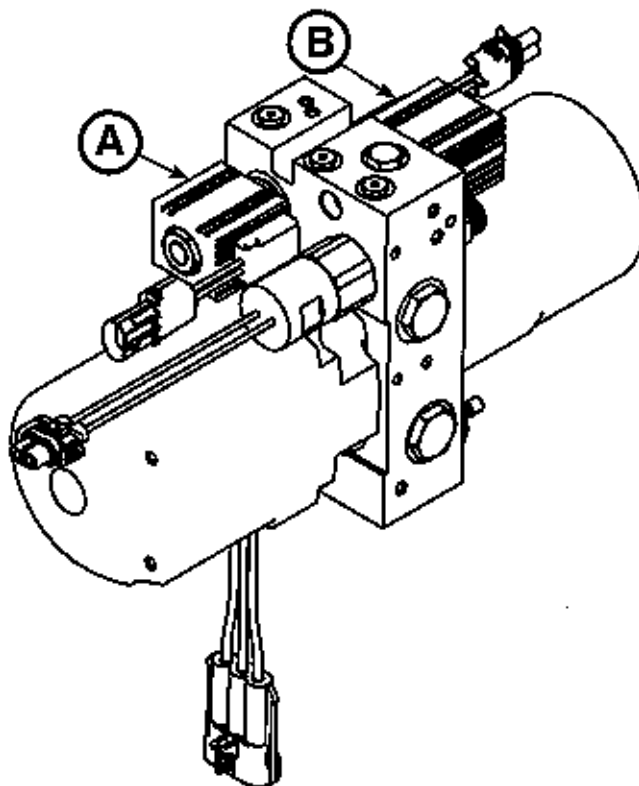

Figure 55
5. Using a 3/4" combination wrench, remove the nut that secures the solenoid to the A valve (A) or B valve (B) (Figure 55). Save the nut for reinstallation.